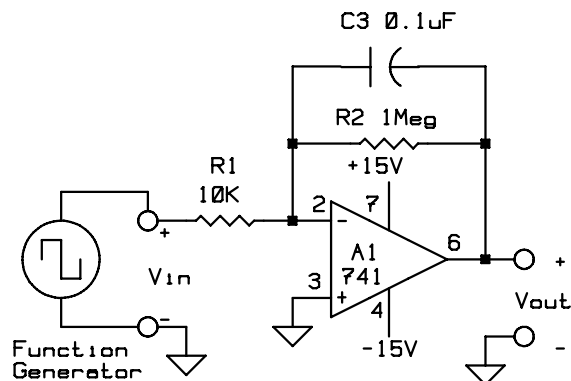

Fig. 3. Integrator with dc stabilization.
Construct the integrator shown in Fig. 3, using both positive and negative 15-V power supplies. For C3, use a plastic- or paper-dielectric capacitor. (Do not use an electrolytic type.)
5. Predict the ideal transfer function of Fig. 3 if R2 were omitted.